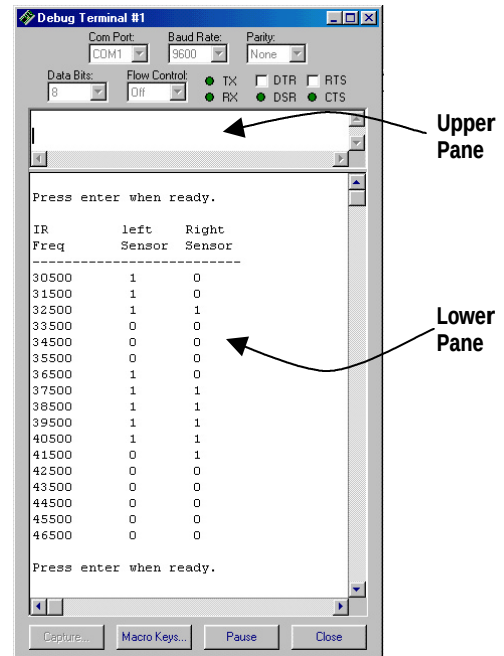

Figure H.3 Debug of Frequency Data.
- ❑ Click the upper of the two window panes shown in Figure H.3.
The BASIC Stamp has been programmed to make the Debug Terminal display a “1” if an object was detected and a “0” if an object was not detected. Figure H.3 shows that the left sensor’s region of good signal response is between 36500 and 40500. For the left sensor, the frequency response is strong between 37500 and 41500.
- ❑ Modify the **for...next** loop in Program Listing H.2 so that it steps in increments of 250 and includes the upper and lower limits of both detectors. In the example shown in Figure H.3, the **start**, **end** and **step** values of the **for...next** loop would be modified as follows: